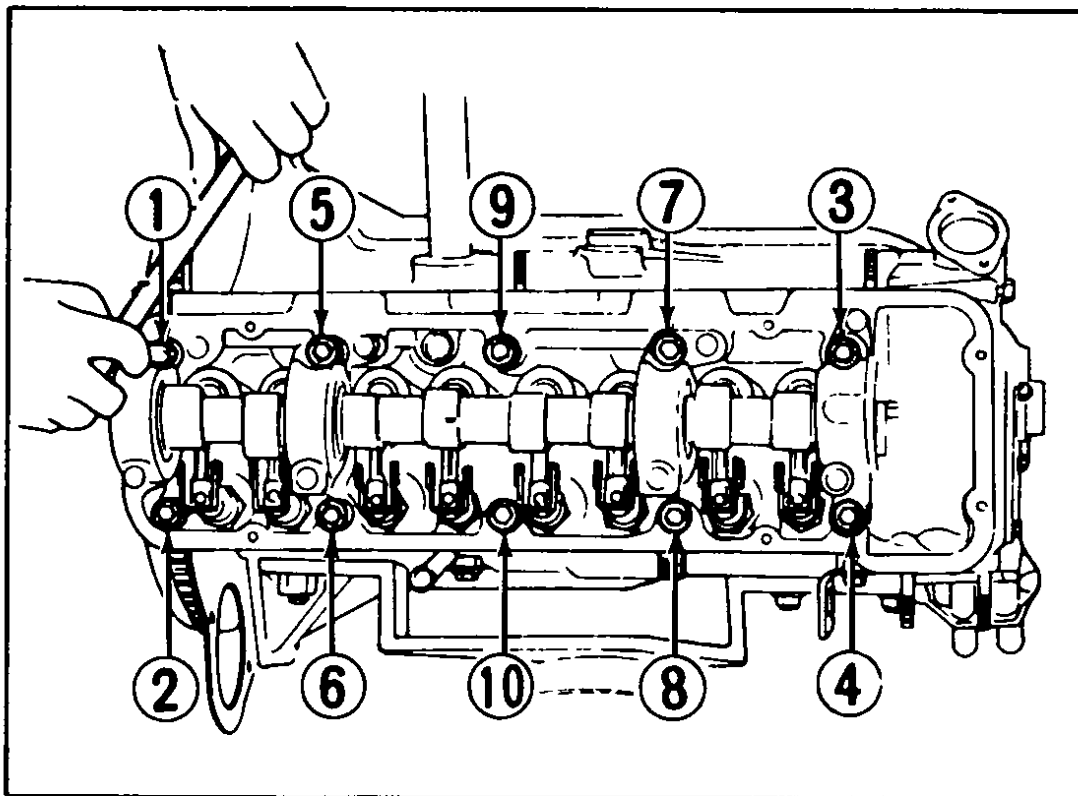

Fig 138 Cylinder head bolt loosening sequence – Models 610 and 710
- 7 Remove the cylinder head bolts loosening in three steps, in sequence shown in Fig 138